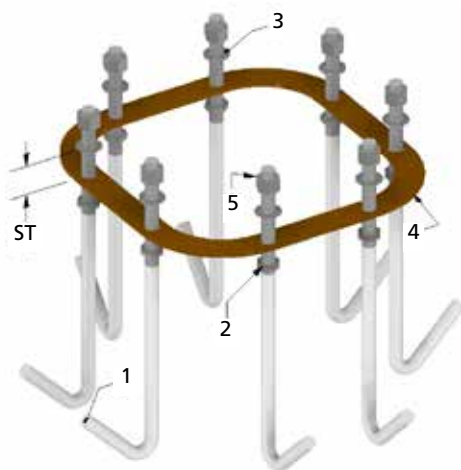

fig.20
1. Screw the lower nuts 2 on the stay bolts 1 letting the threaded portion protrude until obtaining the corresponding protrusion ST (see paragraph 2.2.9) (fig. 20). Carry out this operation on all 8 (eight) stay bolts.